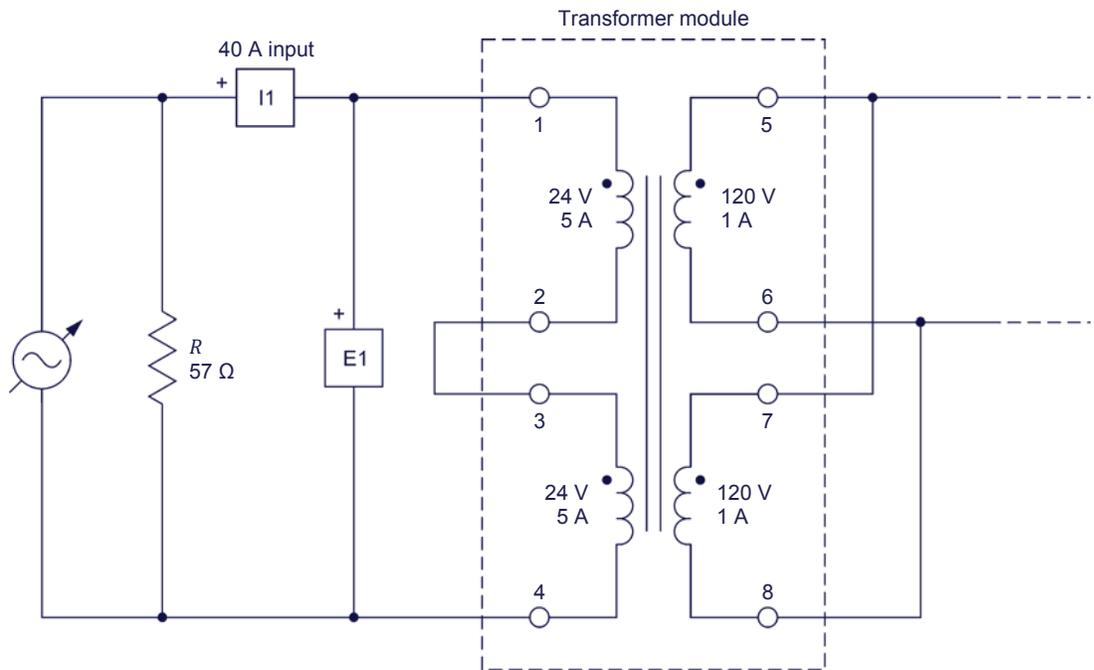

Figure 33. Step-up transformer without load.
6. Connect the equipment as shown in Figure 33. In this circuit, the two 24 V primary windings of the *Transformer* module are connected in series to form a primary winding rated 48 V and 5 A. Also, the two 120 V secondary windings are connected in parallel to form a secondary winding rated 120 V and 2 A. These ratings are for an operating frequency of either 50 Hz or 60 Hz.
The resistive load in the circuit of Figure 33 is used to improve the appearance of the voltage waveforms. As the resistive load is connected in parallel to the ac power source, it has no effect on the measured voltages.